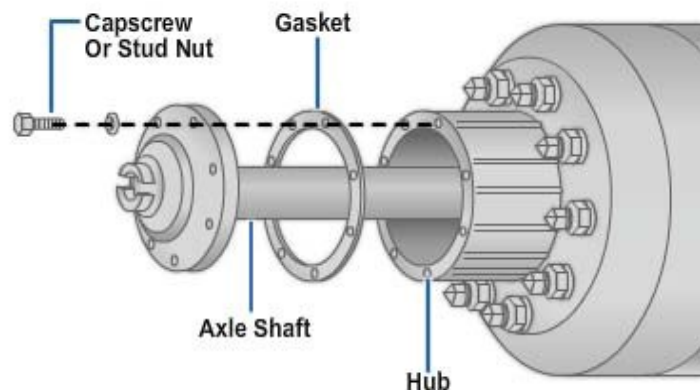

Figure 8-91 - Installing the gaskets and axle shafts into the axle housing and carrier.
11. Install the gaskets and axle shafts into the axle housing and carrier (*Figure 8-91*). The gasket and flange of the axle shafts must fit flat against the wheel hub.